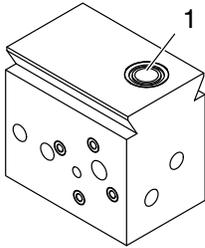

Fig. 5-8
CAUTION: If the safety valve plate is pulled out to enable maintenance to or repair of other components, ensure that the O-ring (6, Fig. 5-8) is positioned properly in the groove when the safety valve plate is slid back into place. Otherwise leakage can occur.
1. Remove the old O-ring (1, Fig. 5-8).